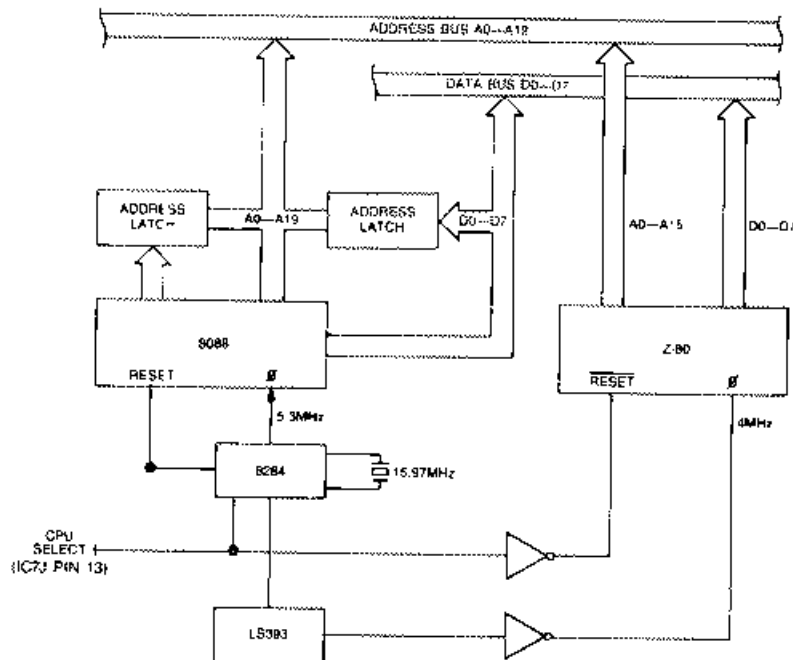

FIGURE 2-15. QX-16 CPU CIRCUIT DIAGRAM
2.3.1.1 8088/Z-80A CPU Circuit (Figure 2-15)